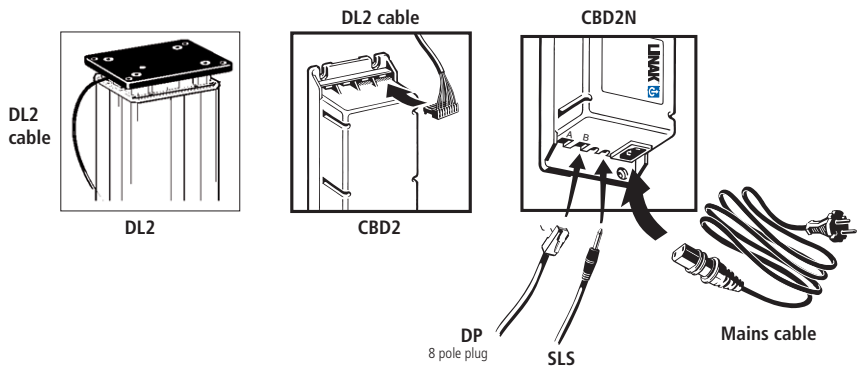

Figure 3
The DESKLINE® system is to be connected as shown on figure 3. *The DL2 is to be connected to the socket on the control box by means of the motor cable, which is supplied with an 8-pin plug.* The connection of the DL2's are on the same side of the control box.
See figure 3.
*The control (DP) is to be connected to port B on the control box - the opposite side of the DL2 column (see figure 3).*
*Up to 2 SLS (Safety Limit Switches) can be connected to the control box on the opposite side of the lifting units. The connection is made by DC mini jack plugs (see figure 3).*